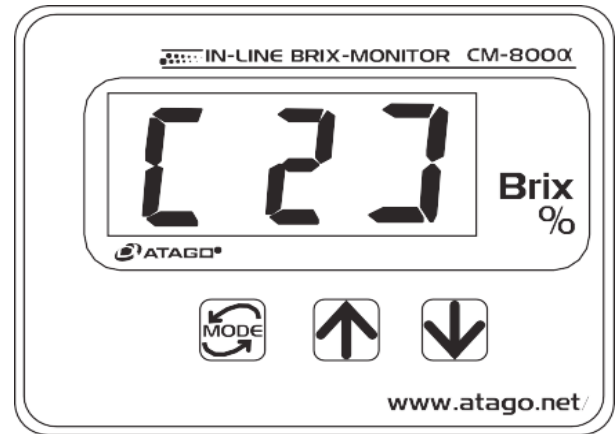

Figure 13-1
Press the  key again and the display will change to [2] (Fig. 13-1).
6. Pressing the  key sets the adjustment of the temperature correction factor and the display returns to [2] (Fig. 13-1).